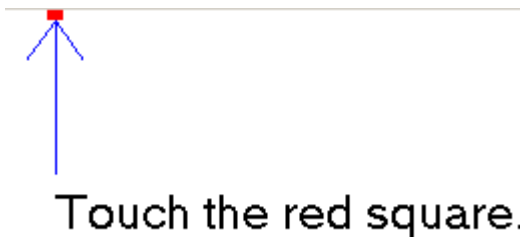

Figure 7-14: Calibration Screen
Step 10: The calibration screen in is shown. See **Figure 7-14**.